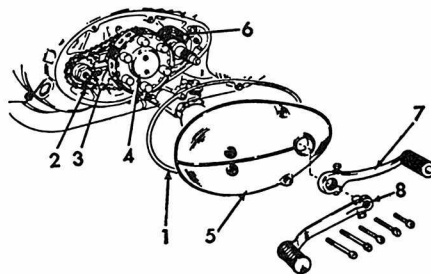
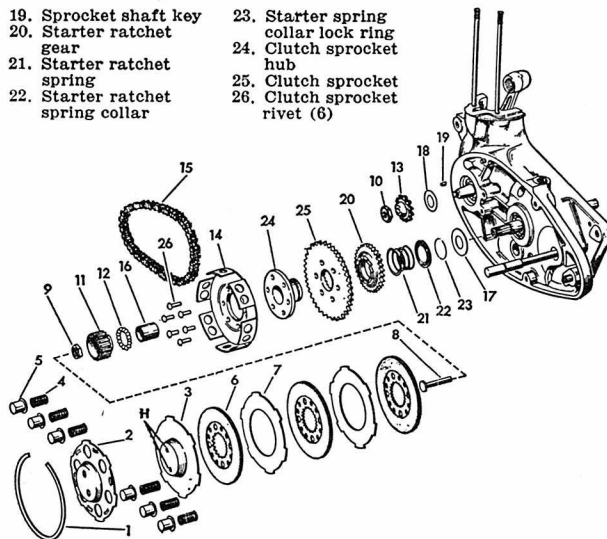

Fig. HD2-11—View of clutch assembly installed.
**Fig. HD2-12 — Exploded view of the clutch assembly.**
Fig. HD2-11) and starter crank (7). Remove the five clutch case cover retaining screws; then, remove cover. Insert two clutch release disc studs (Harley-Davidson part No. 3790247) through holes in thrust plate (2—Fig. HD2-12) and turn them into the threaded holes (H) in release disc (3). Then turn two compression nuts (Harley-Davidson part No. 7675) on studs against plate (2) to compress springs. Remove snap ring (1) and withdraw thrust plate (2), release disc (3), springs (4) and cups (5) as a unit. Remove discs (6 & 7). Remove left release rod (8) and remove nuts (9 & 10). NOTE: Nut (9) has left hand threads; nut (10) has right hand